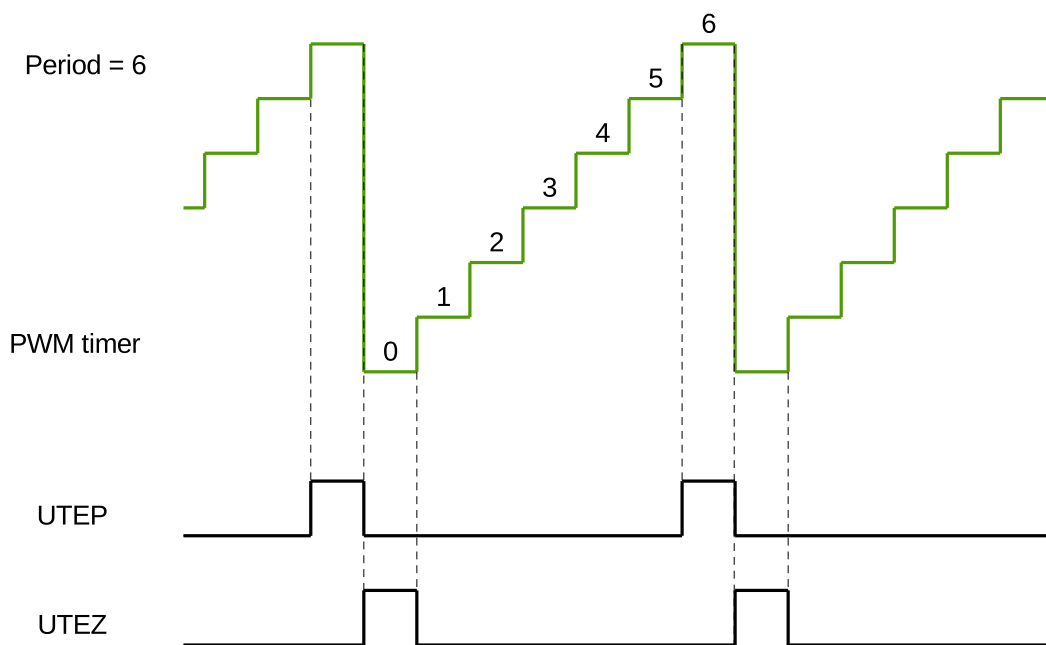

Figure 75: UTEP and UTEZ Generation in Count-Up Mode
Figures 75 to 77 show the timing waveforms of U/DTEP and U/DTEZ.
1. UTEP and UTEZ do not happen simultaneously. When the PWM timer is in count-up mode, UTEP will always happen one cycle earlier than UTEZ, as demonstrated in Figure 75, so their action on PWM signals will not interrupt each other. When the PWM timer is in count-up-down mode, UTEP will not occur.